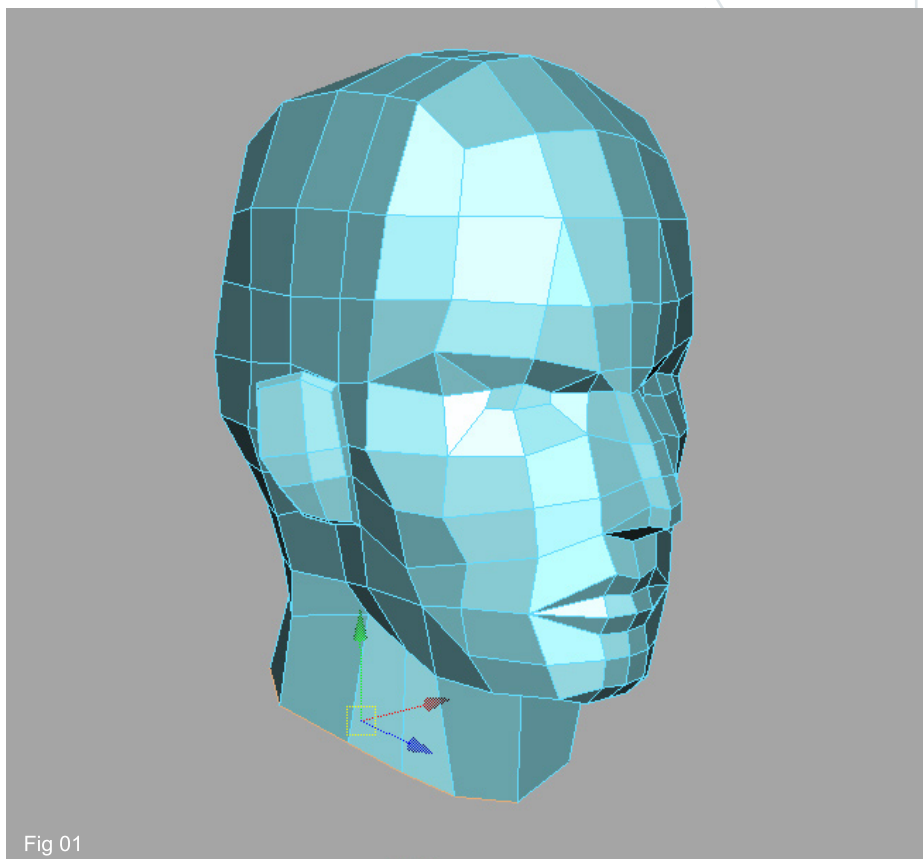

Fig 01
1. First step is to open the older file containing the head made in the first part of this tutorial. It's better to use a copy of the older file or use "Save as" command for this one that is already open. Select the lower row of edges from the neck as in "Fig 01". Using "Edit Polygons > Extrude Edge" tool we're extending down the bottom of the neck. Remember that while we're working with "instance" option we save plenty of time working only on a half of the model. The other half is changing automatically.